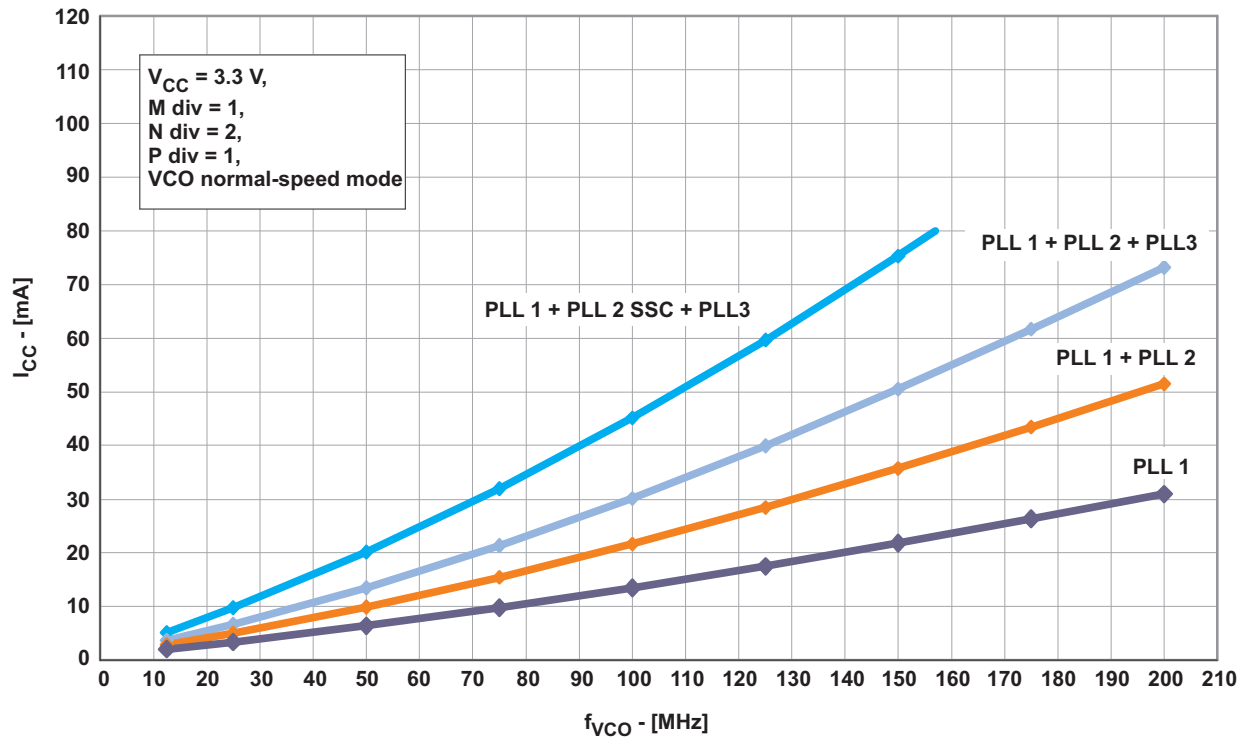
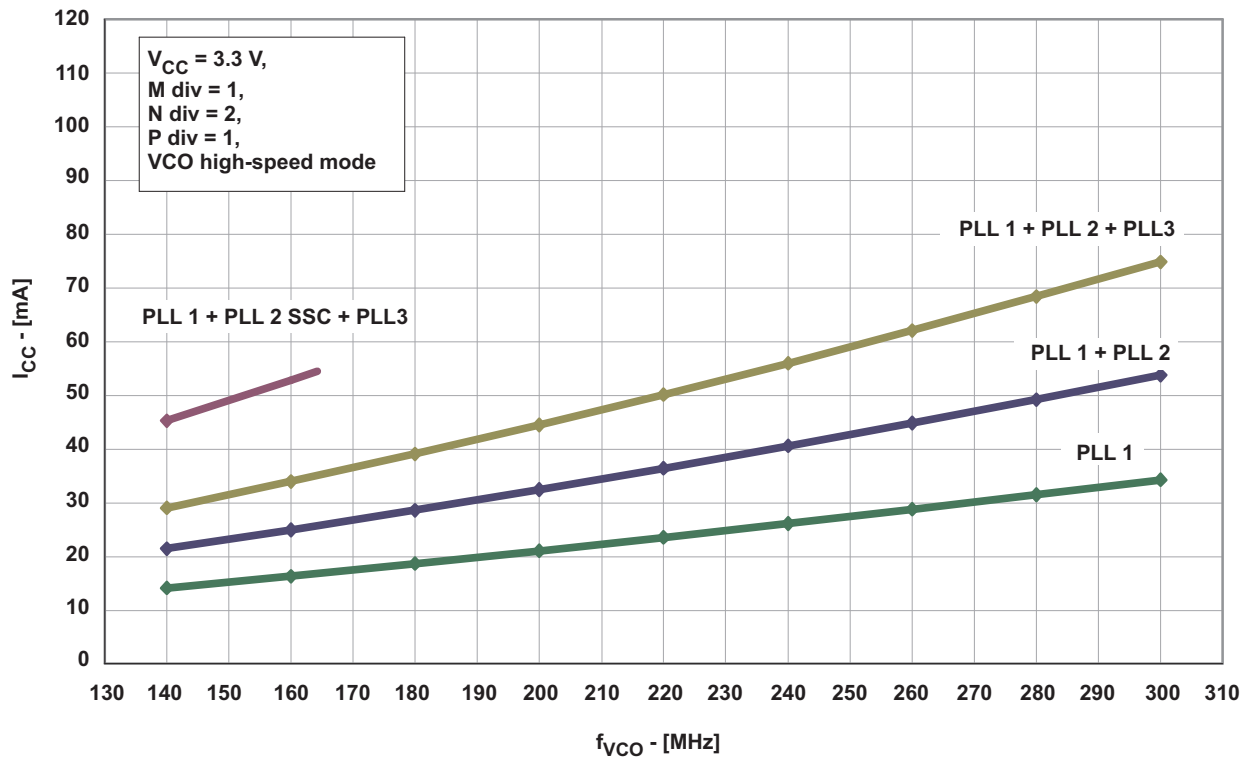
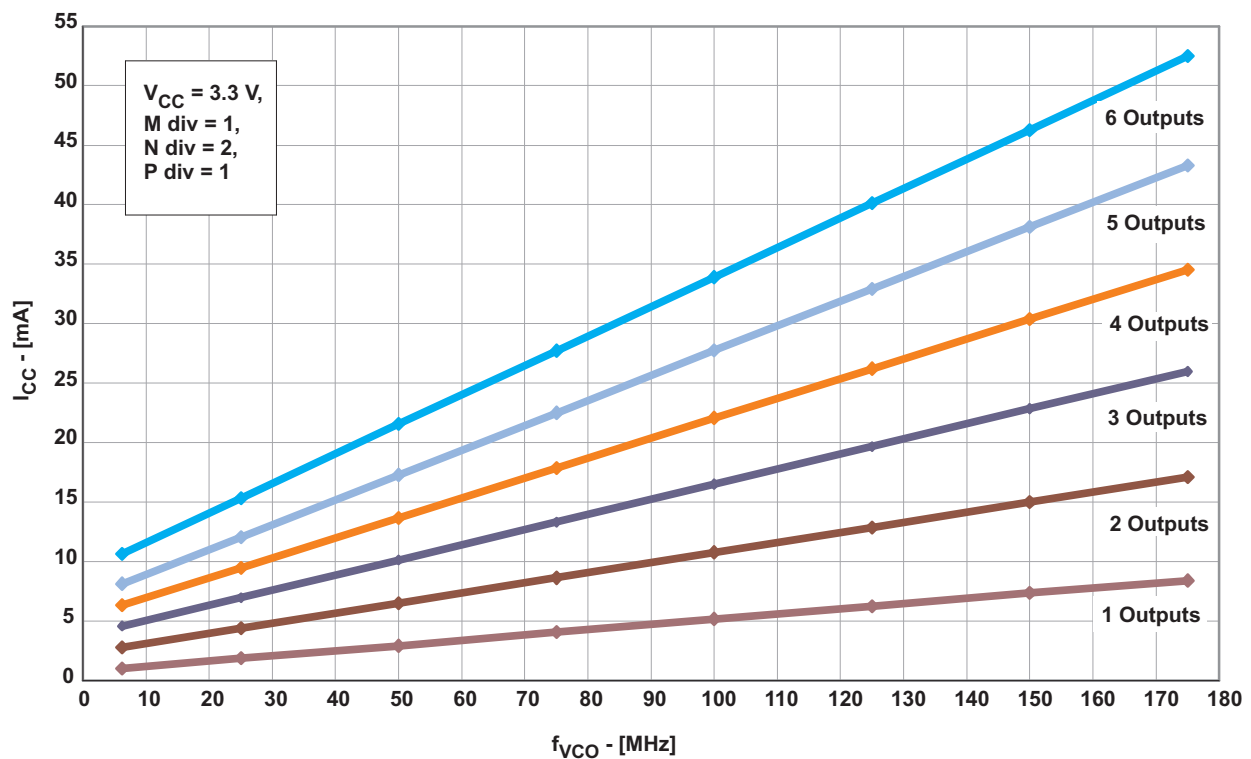

Figure 2. ICC vs Number of PLLs and VCO Frequency (VCO at Normal-Speed Mode, Byte 6 Bit [7:5])
Figure 3.  $I_{CC}$  vs Number of PLLs and VCO Frequency (VCO at High-Speed Mode, Byte 6 Bit [7:5])
Figure 4.  $I_{CCOUT}$  vs Number of Outputs and VCO Frequency
- (1) All typical values are at respective nominal  $V_{CC}$ .
- (2) For calculating total supply current, add the current from Figure 2, Figure 3, and Figure 4. Using high-speed mode of the VCO reduces the current consumption significantly. See Figure 3.
- (3) Normal-speed mode or high-speed mode must be selected by the VCO frequency selection bit in Byte 6, Bit [7:5]. The min  $f_{VCO}$  can be lower but impacts jitter-performance.
- (4) The maximum output frequency may be exceeded, but specifications under the Recommended Operating Condition may change and are no longer assured. Do not exceed the maximum power dissipation of the 20-pin TSSOP package (600 mW at no air flow).